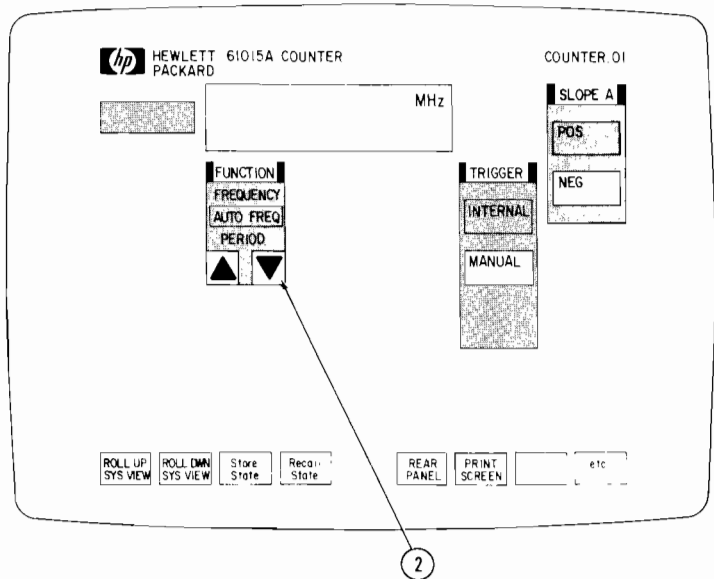

Figure 2-2. Select The Frequency Function
Step 2 · When you complete Step 1, COUNTER.01 appears in the interactive instrument window as shown in Figure 2-2. Notice that the System View window turns bright where the label was previously. The bright box in the center of the FUNCTION switch shows that the Counter is now in the Auto-Frequency function. Point to and select the ▼ arrow to choose the FREQUENCY function as shown in Figure 2-2.